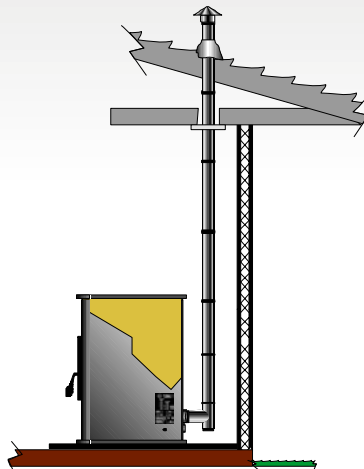

Figure 20
-  **VERTICAL, THROUGH THE CEILING**, through another room or space, or attic, then through the roof, terminating with a rain cap. Figure 20.